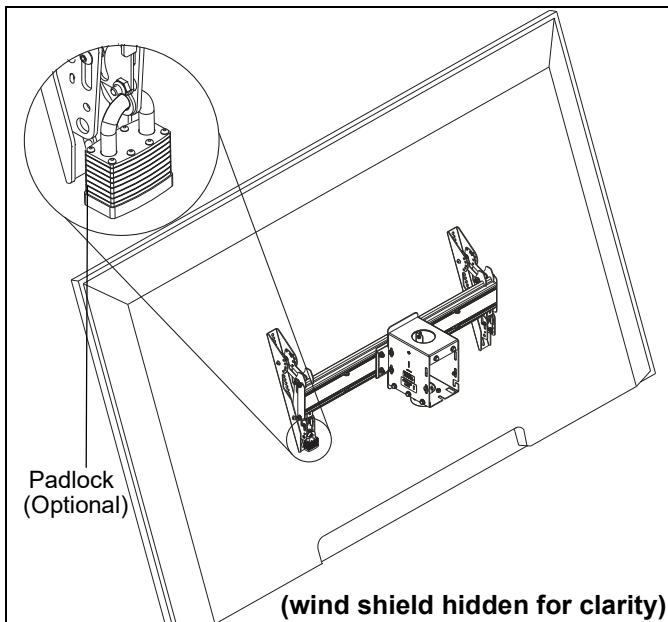

Figure 18
1. Add padlock (not included) to each interface bracket to lock latch and to provide security for displays. (See Figure 18)